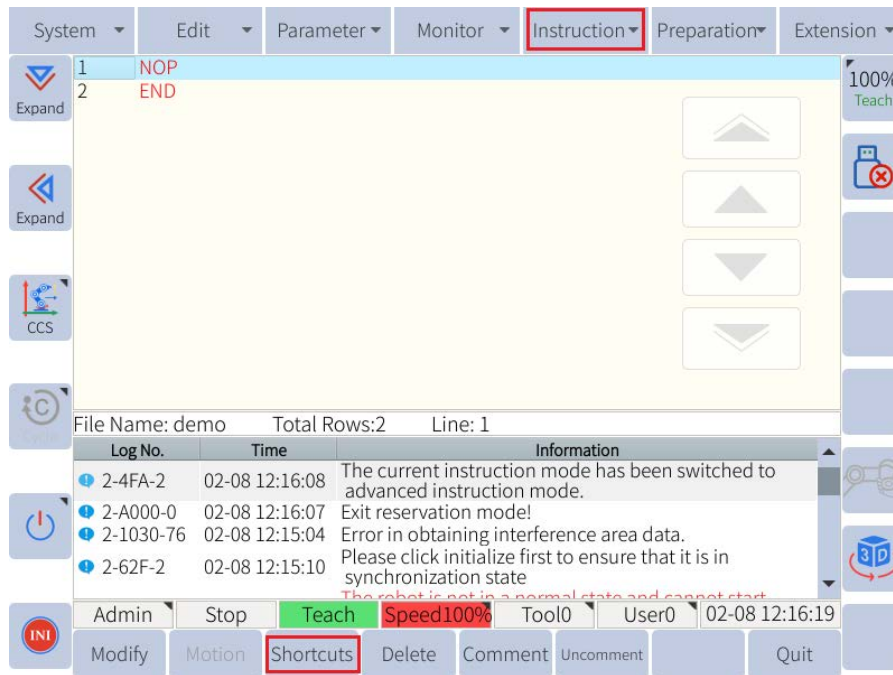

Figure 6-64 : Inserting other instructions
2. Press “Instruction” under the main menu (or “Shortcuts” in the submenu area) to select the in-struction to be inserted (see **Figure 6-64**)